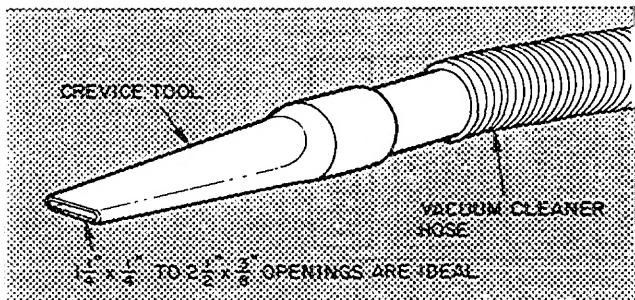

Fig. 16 — Crevice Cleaning Tool
3. Clean coil using vacuum cleaner and its crevice tool (see Fig. 16). Work crevice tool perpendicularly to coil tubes, making sure tool only touches dirt on fins. To prevent fin removal, do not "scrub" fins with tool or move tool parallel to coil tube configuration.